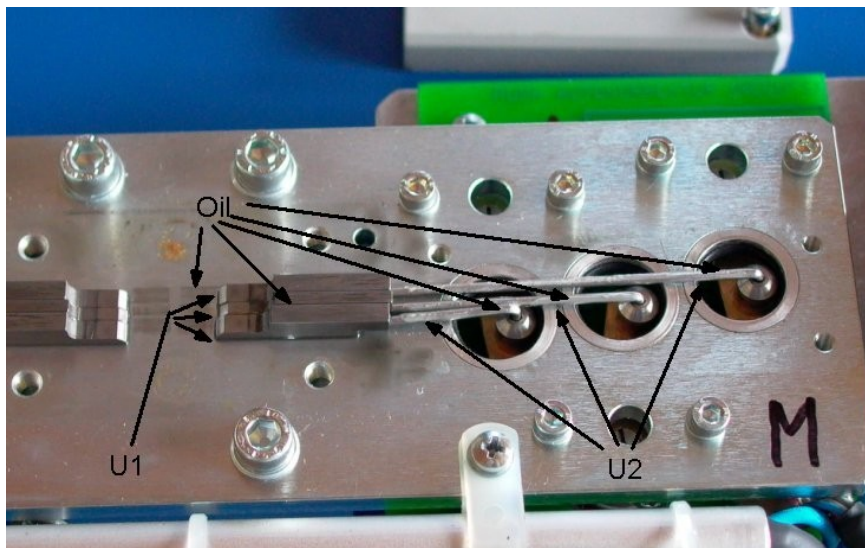

Fig. 2.6
Reassemble them and oil all parts that have been removed. (Fig. 2.6)
- Put the six slides as shown in Fig. 2.6 and reassemble the embossing head. Take care, that all slides move easily and the springs and the pins are in the right position. The head can only be assembled in one direction because of two extra pins in the upper half.